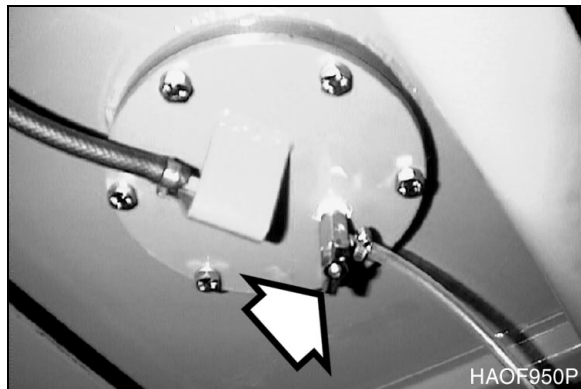

Figure 6
13. Place a large enough container under the tank to collect remaining fuel. Open the drain valve (Figure 6) at the bottom of the tank and empty the tank.